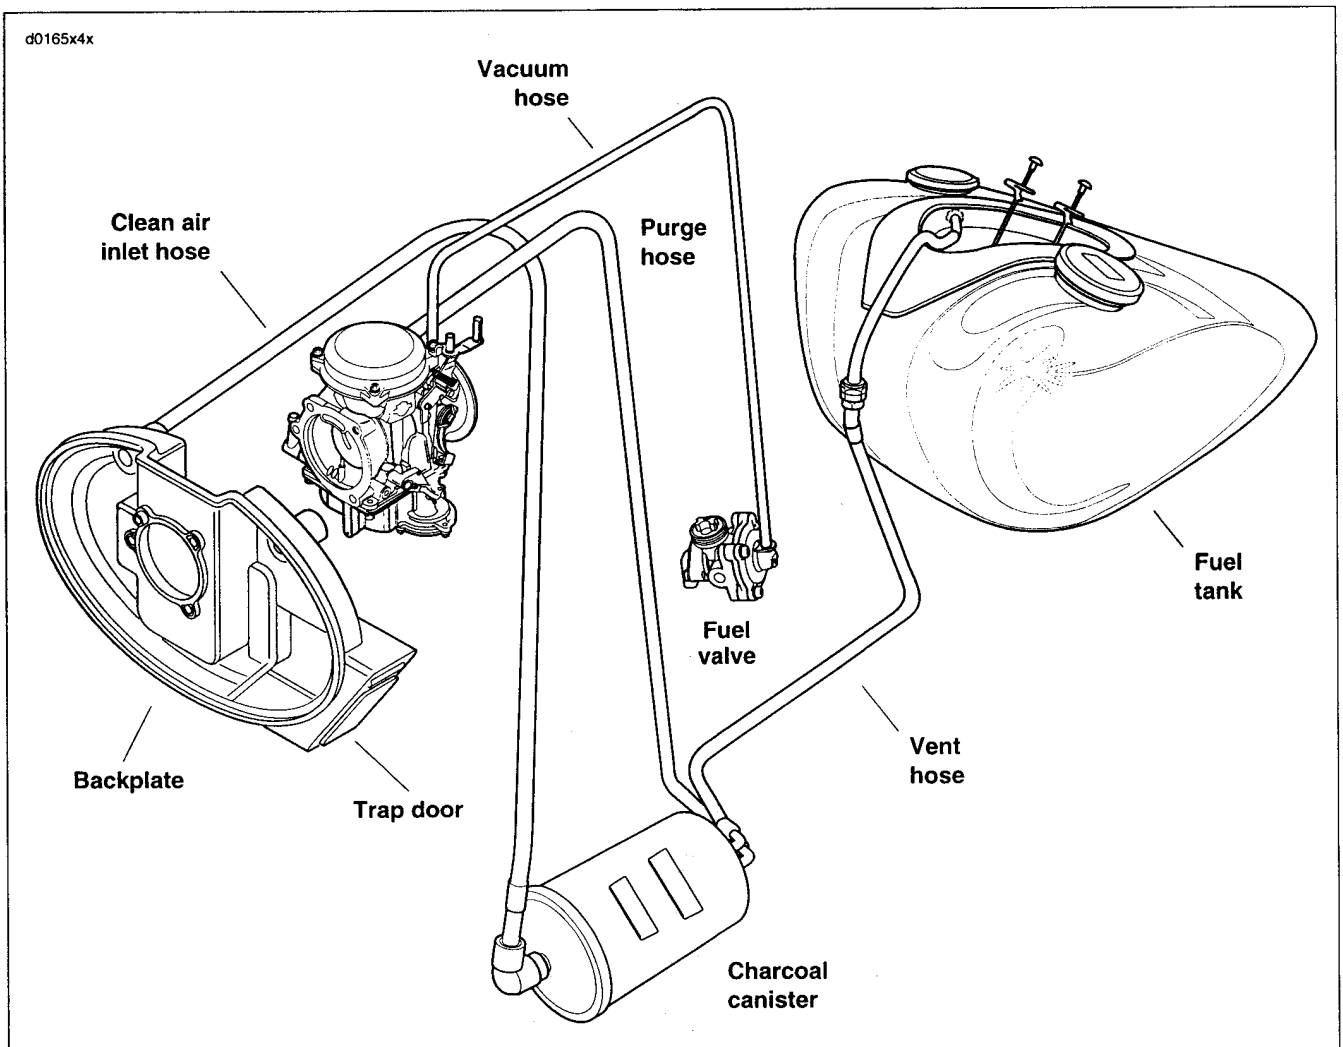

Figure 4-17. Schematic-CA Evaporative Emissions Control System
- a. See Figure 4-17. Attach the large (0.5 in./12.7 mm ID), preformed, clean air inlet hose to the backplate fitting.
- a. See Figure 4-17. Attach the preformed purge hose to the carburetor purge fitting.